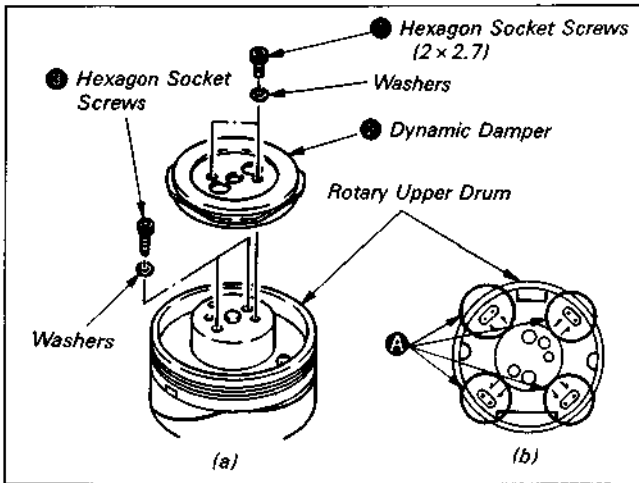
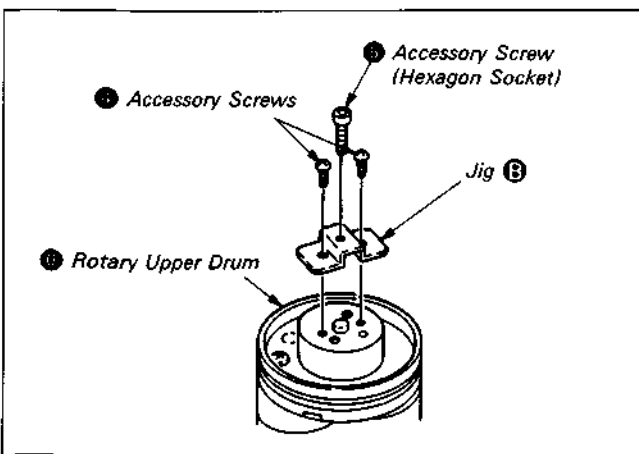

Fig. 7-45.
Fig. 7-46.
- 1) Remove two hexagon socket screws (2×2.7) ① and dismount the dynamic damper ②. (See Fig. 7-45.)
- 2) Suction solder at all of the soldered eight positions A. Check that the printed wiring board and pins jutting out from below freely move using tweezers, or other tool. (See Fig. 7-45.)
- 3) Remove the two hexagon socket screws (2×5) ③. (See Fig. 7-45.)
- 4) Mount the dismantling Jig B with the accessory screws ④ utilizing the screw holes in which the dynamic damper was mounted.
Drive the hexagon socket screw ⑤ into the jig B and remove the rotary upper drum ⑥. (See Fig. 7-46.)
- 3) Remove Jig C, lightly push the rotary upper drum by hands. If the rotary upper drum does not go in to the bottom, alternately tighten the two hexagon socket screws (2×5) ③ by hand and fix them temporarily. (See Fig. 7-45, 7-48.)
- 4) Reinsert the Jig C in the positioning hole D and check that the jig can be inserted smoothly. (When the jig cannot be inserted, loosen the two hexagon socket screws (2×5) ③ and slide it inserting a clock screw-driver in the hole.)
- 5) Tighten the two hexagon socket screws (2×5) ③.
- 6) Solder the eight positions A. (See Fig. 7-45.)
- 7) Tighten the two hexagon socket screws (2×2.7) ① reversing the screw removal procedure and remount the dynamic damper ②. (See Fig. 7-45.)